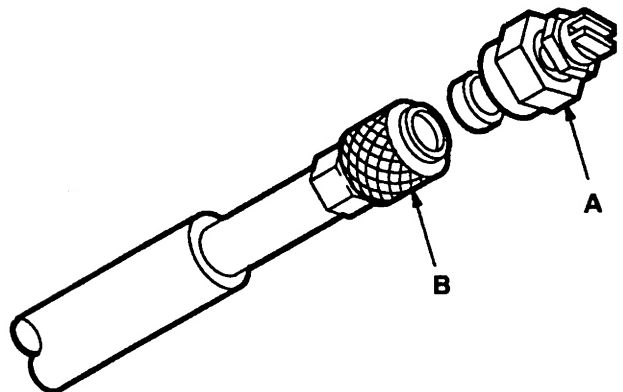

Figure 3
3. Without holding your hand over the spray tip (A), pull back the quick coupler ring (B), remove the tip and then release the ring. See Figure 3.